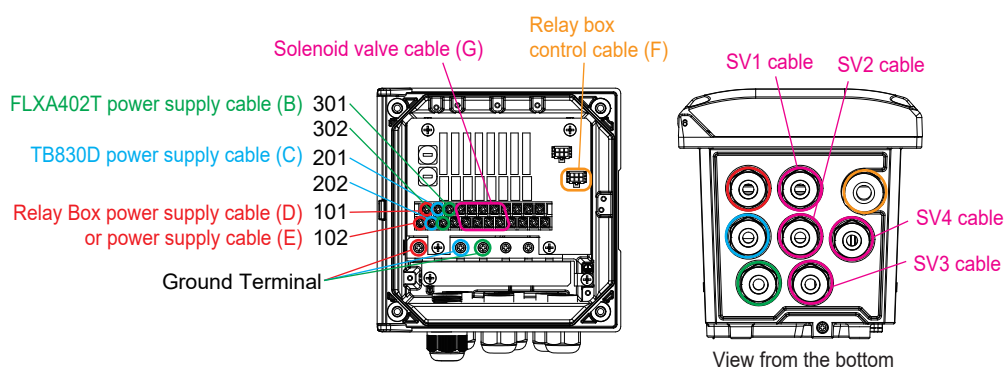

Figure 64 Wiring of Relay box (for-A5)
■ FLXA402T power supply cable (B)
Dedicated cables are included. Refer to Figure 62 and Figure 64 for wiring. The lengths of the terminal processes at both ends are different. Connect the longer side (approx. 80 mm) to TB830D side and the shorter side (approx. 50 mm) to FLXA402T side. Cables have no terminal names on them. Wire them by color. L:Black, N: White, G: Red. Tightening torque of M3 screws (L and N) is 0.6 N·m. The tightening torque for M4 screws (G) is 1.4 N·m.
■ TB830D power supply cable (C)
Dedicated cables are included. Refer to Figure 62, Figure 63, and Figure 64 for wiring. Cables have no terminal names on them. Wire them by color. L:Black, N: White, G: Red. M3 The tightening torque for screws (L and N) is 0.6 N·m, and that for M4 screws (G) is 1.4 N·m .
■ Relay Box power supply cable (D)
Dedicated cables are included. Refer to Figure 62 and Figure 64 for wiring. Cables have no terminal names on them. Wire them by color. L:Black, N: White, G: Red. The tightening torque for M3 screws (L and N) is 0.6 N·m, and that for M4 screws (G) is 1.4 N·m.
■ Power supply cable (E)
Dedicated cables are included. Connect to the specified connectors referring to Figure 62, Figure 63, and Figure 64.
Solenoid valve and solenoid valve cabling must be provided by the customer. Refer to Table 10 and Table 11 for required specifications. Wire solenoid valve cabling referring to Figure 62 and Figure 64.